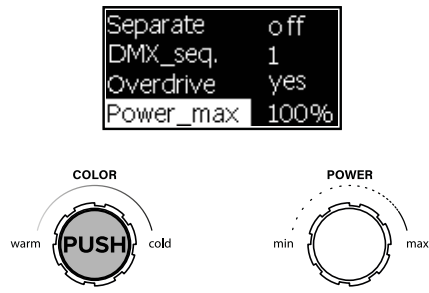

Fig. 39
1. Pressing on the left encoder brings up a menu for selecting the **Power\_max** parameter value (Fig.39).